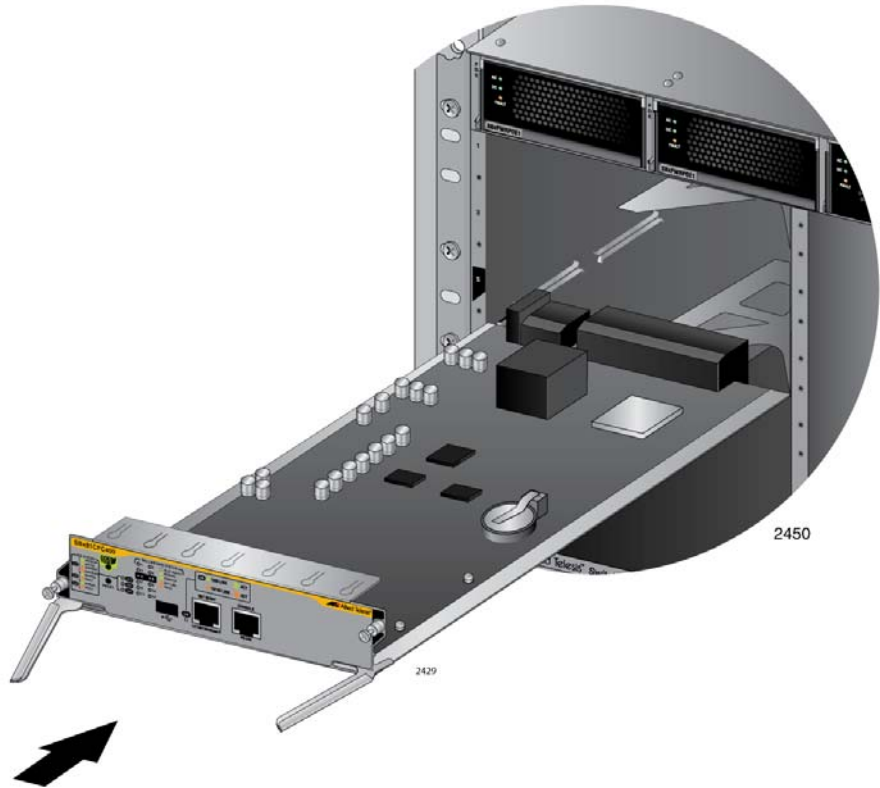

Figure 69. Aligning the AT-SBx81CF400 Card in the Chassis Slot
6. Align the edges of the AT-SBx81CF400 Controller Fabric Card with the internal chassis card guides in slot 5 or 6 of the AT-SBx8112 Chassis. Figure 69 on page 133 shows the AT-SBx81CF400 Card aligned in slot 5.